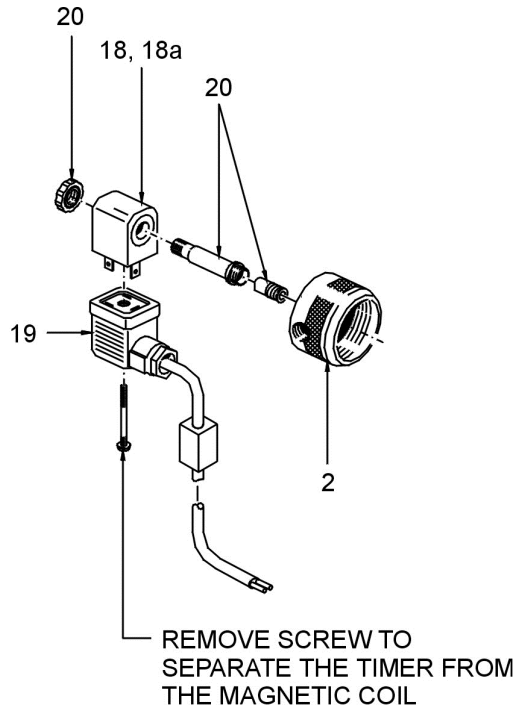

Figure 20 EXT-50 Coil and Timer Overhaul Kit
6. Faulty timer or Magnetic Coil.	6. Test magnetic coil. Refer to Paragraph 6.7 and Figure 17 and Figure 20. If DumpMaster® drain valve actuates, fit new timer.